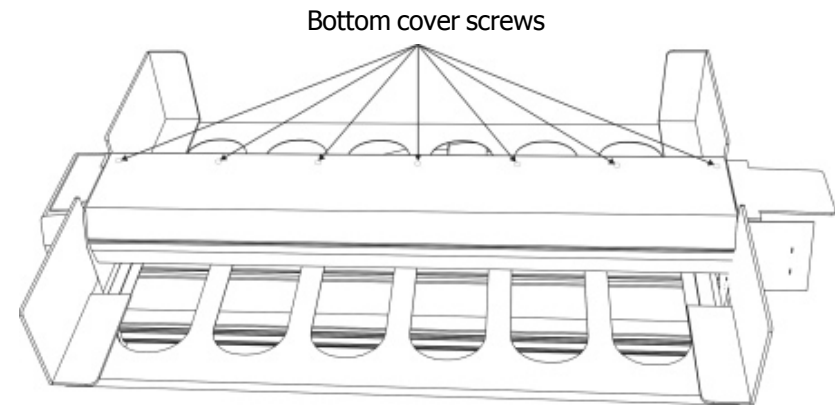

Fig 41 - Bottom cover screws
5. Remove the phillips screws along the bottom cover's edge. *See Fig. 41*